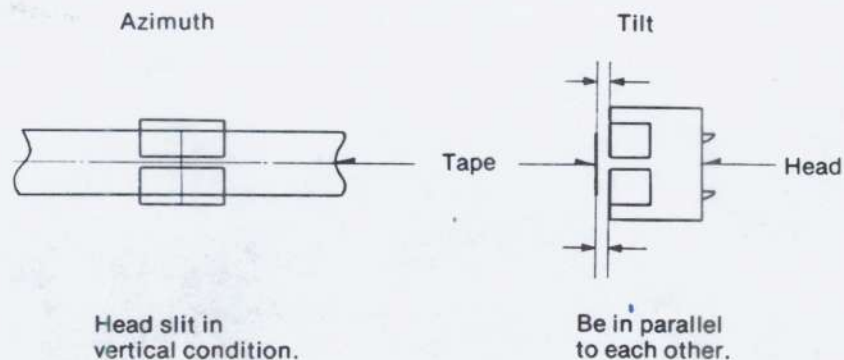

Fig. 56
Use screws (B) and (C) respectively to adjust so that the condition will be as shown in figure 56, estimating azimuth and tilt visually.